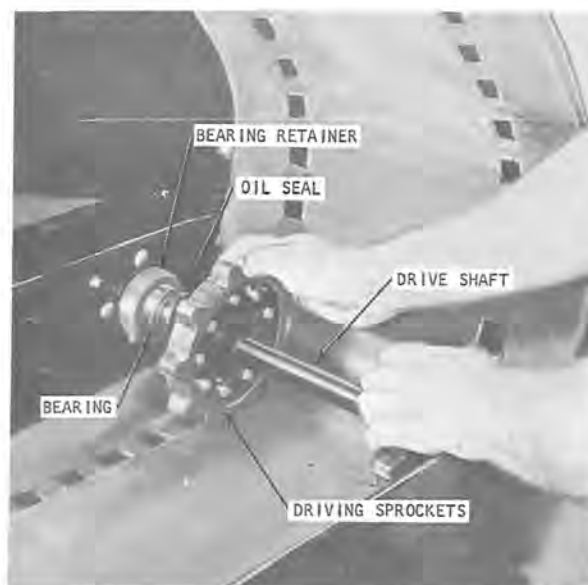

Figure 9
13. Move the drive shaft and sprocket assembly toward the right side of the sled until the shaft clears the bearing and plate assembly in the chain case (figure 9).